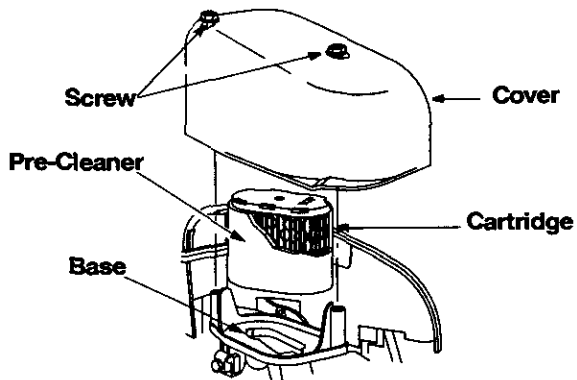

Figure 13
- Completely loosen the two screws that hold the cover of the air cleaner. Remove the entire air cleaner assembly from the base. Lift the cover off the air cleaner. See Figure 13 .
- Install clean (or new) air cleaner assembly in base so that the lip of the cartridge sits inside the base. See Figure 13 .